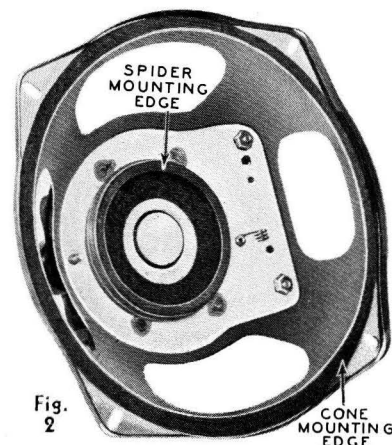
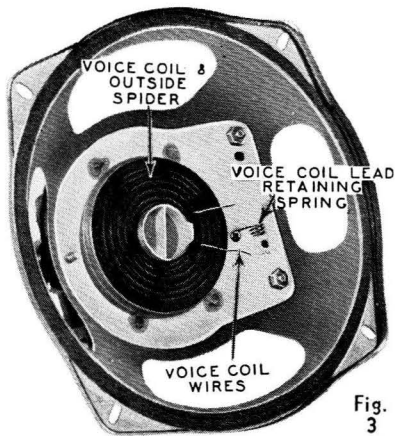
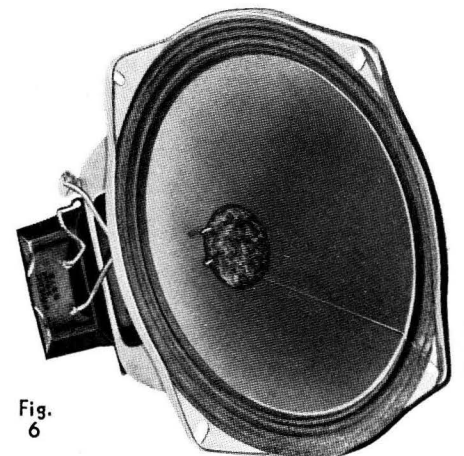

Fig. 2
Fig. 3
Fig. 6
Different stages in the assembly of the cone are shown in Figs. 2 to 6. In Fig. 2 the cone housing is shown with the cone removed and the mounting surfaces prepared for the new cone.
The next step is the cementing of the outside spider and voice coil in place. This is shown in Fig. 3. Fig. 4 illustrates the cone assembled on the voice coil and the points to be cemented or soldered. The removal of the voice coil gauge is shown in Fig. 5 and the complete cone assembled in the speaker in Fig. 6.
C. Apply Philco cement around the spider mounting edge of the housing (see Fig. 2). Insert the new voice coil and spider assembly into the air gap, making sure that the voice coil leads face toward the voice coil lead retaining spring (see Fig. 3).
D. With voice coil in place, apply cement to the cone mounting edge (see Fig. 2). Insert cone over the voice coil, with the two voice coil leads facing the two cone leads as shown in Fig. 4. When the cone is properly inserted, it will set about $3/32$ of an inch below the top edge of the voice coil.
F. The small felt dust cover is now attached to the cone as shown in Fig. 6 by applying a small ring of cement around the felt about $1/8$ " from edge.